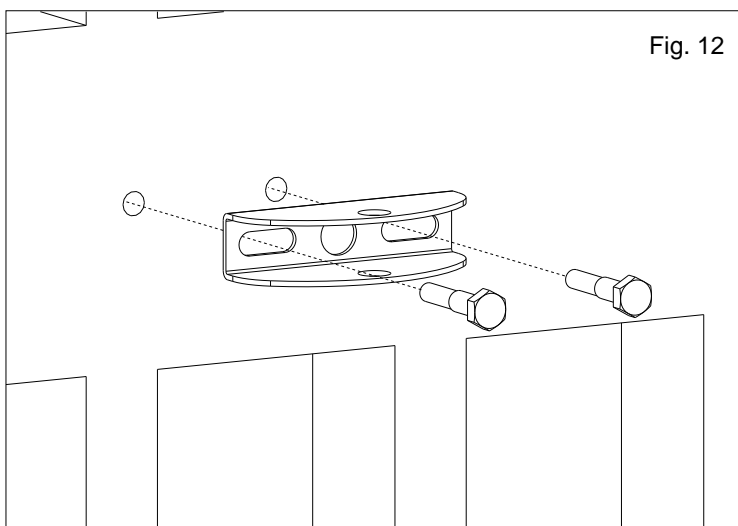

Fig. 12
- Perforate the leaf and attach the front bracket with the screws (Fig. 12)